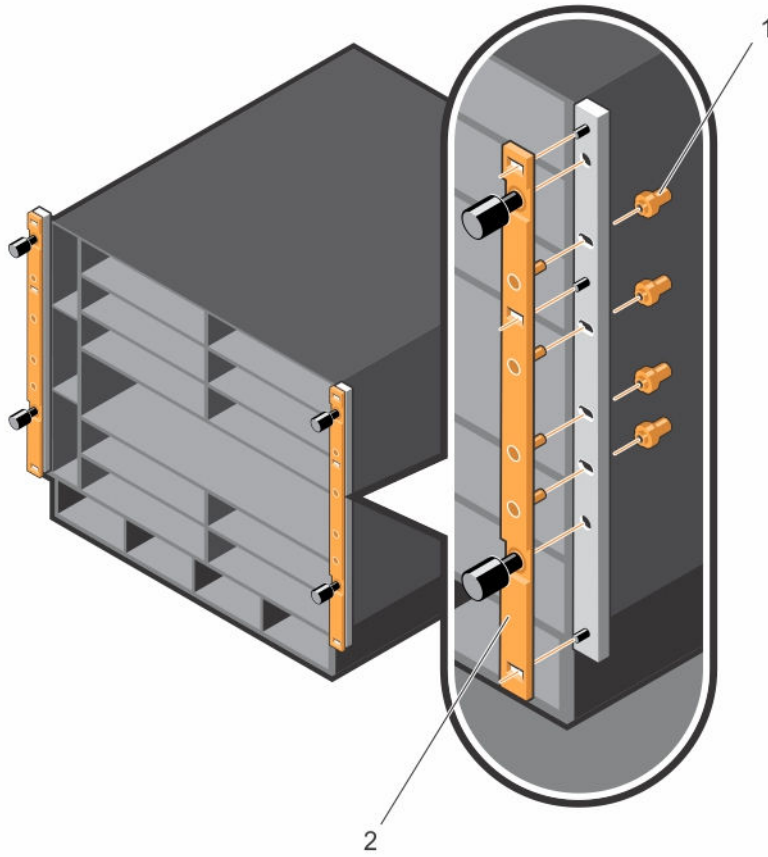

Figure 3. Removing Brackets from the Chassis
- Using a flat-head screwdriver, remove the bracket screws (item 1 in Figure 3) and unscrew the thumb screws to remove the bracket (item 2 in Figure 3) attached to each chassis flange.